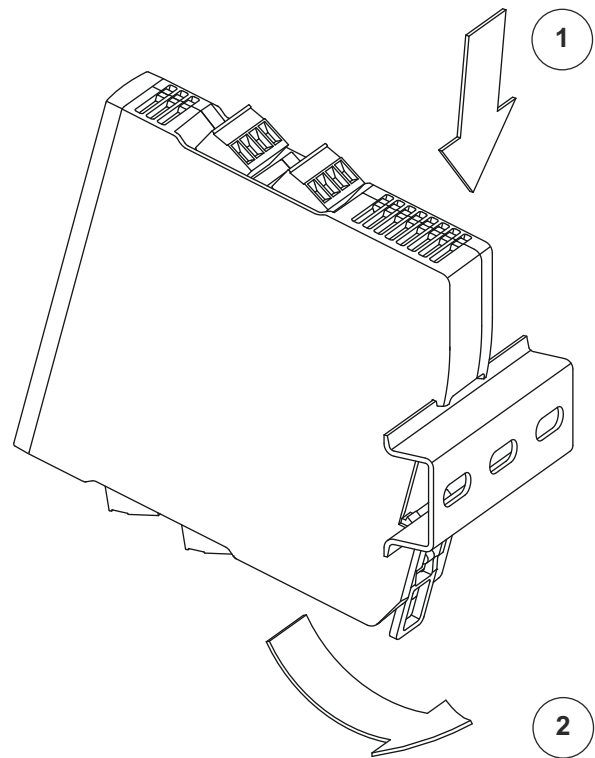

Figure 58: Mount the safety relay on the DIN rail.
2. Hang the top rear side of the safety relay on the DIN rail. See **Figure 58 (1)**.
3. Push the bottom rear side of the safety relay on the DIN rail until you hear a click. See **Figure 58 (2)**.